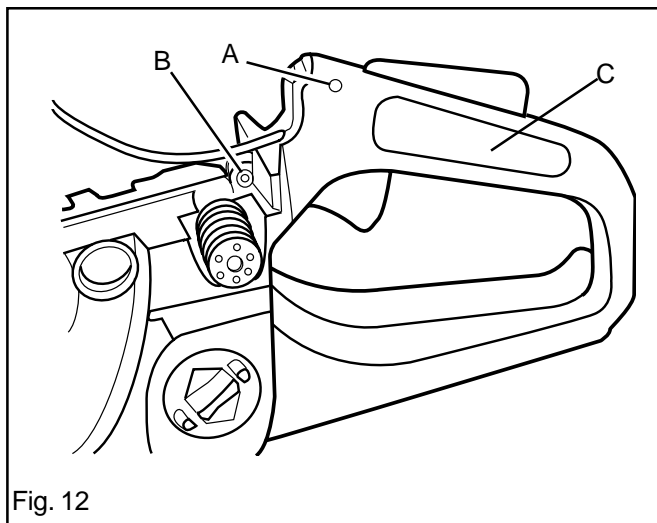

Fig. 12
1. Remove the hand grip insert (C). See fig. 12.
2. Remove the throttle lock pivot (A) with the help of a driver. See fig. 12.
4. Remove the stop switch. Press out the throttle lever pivot (B) with a driver. See fig. 12 and 15.
1. Fit the throttle cable and lever. Fit the throttle lever with pivot (B). See fig. 12 and 15.
4. Fit the throttle lock pivot (A) with the help of a driver. See fig. 12.